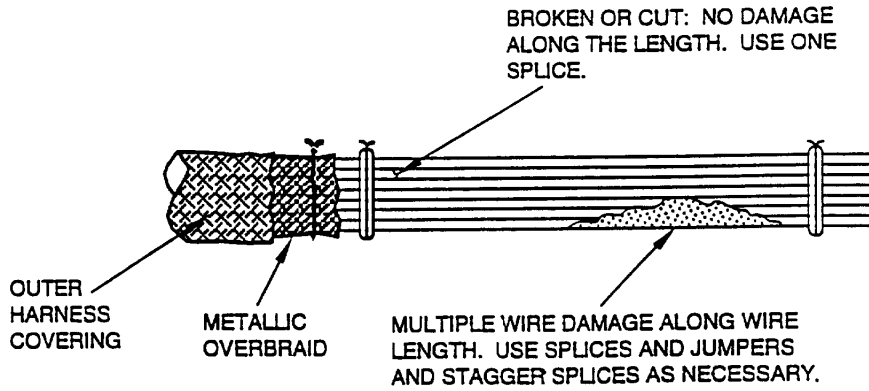

Figure 23. Examine Wire for Damage
- c. Uncover all areas of wire damage (Figure 23).